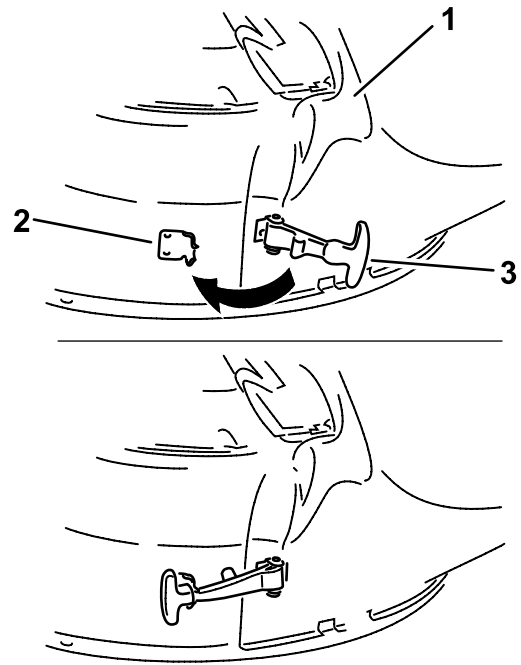

Figure 17
- Hook the flexible latch on the chute to the retaining clasp welded on the mower deck (Figure 17).